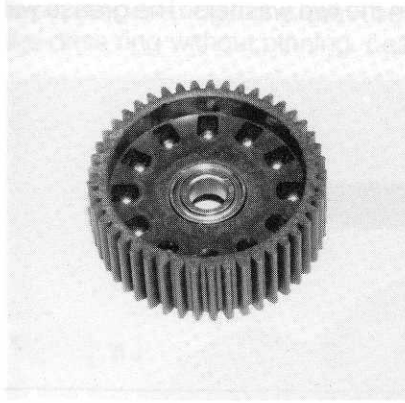

Fig. 39
□ **Fig. 39** Your completed gear.